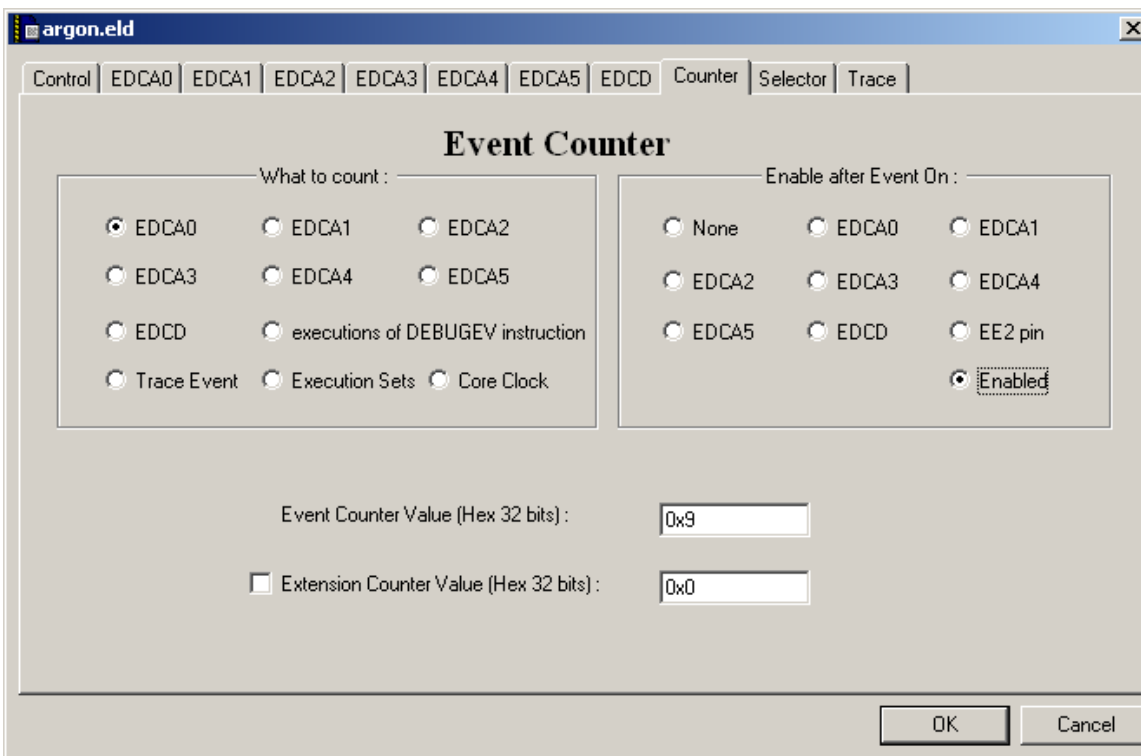

Figure 21: EOnCE Counter Setup
- a. Setup the EOnCE Counter (see Figure 21: EOnCE Counter Setup)